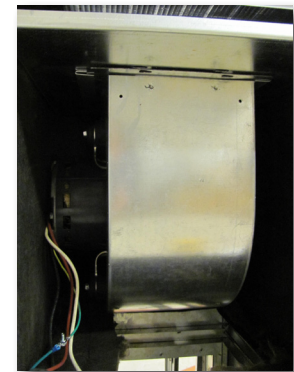

*Fig. 8*
8. Insert ground wire extension into 4-prong motor plug. (Fig. 8)